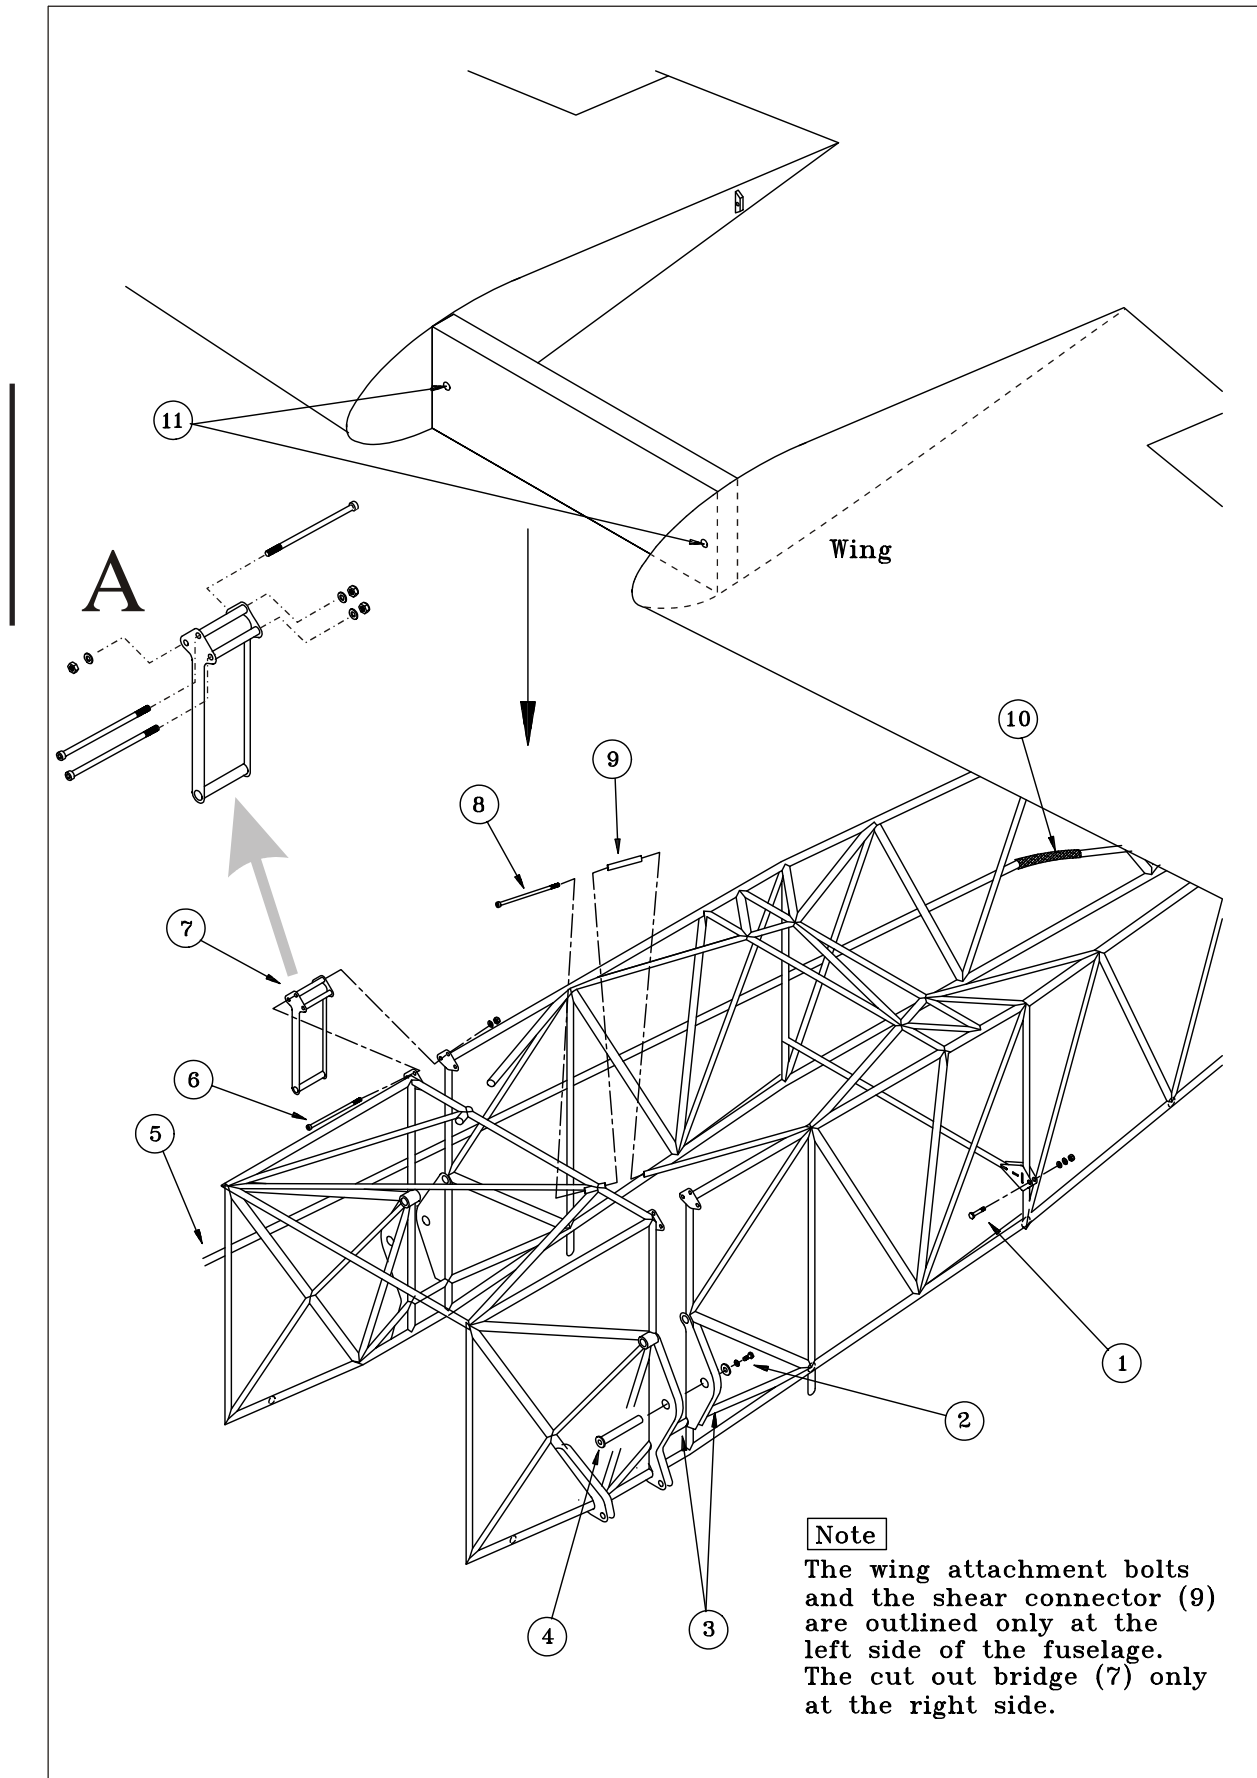

Figure 3
- 8 Slide in shims if necessary and install the main spar tubular bolts (4, figure 3) to the wing flange bushings (11) from front to rear.
- 9 Secure main spar tubular bolts with bolts (2), DIN912 M8 and aluminum 30x11x4 washers. Torque security bolts for fastening and subsequently safety wire.
- 10 Install upper longeron cutout bridges (7) using at each side 3x DIN912 M8 x 180, 3x DIN125 M8 washers and 3x LN9348-08 stop nuts at the top and 1x DIN912 M10 x 230 bolt, DIN125 M10 washer and LN9348-10 stop nut at the bottom (6). Check cutout bridges for RH and LH marking. Install the bolts (except the upper outer bolts, see figure 3, detail A) from front (firewall) to rear (aircraft tail). Torque stop nuts for fastening.
- 11 Install the shear connectors (8). Use two DIN 912 M12x220 bolts and safety wire.